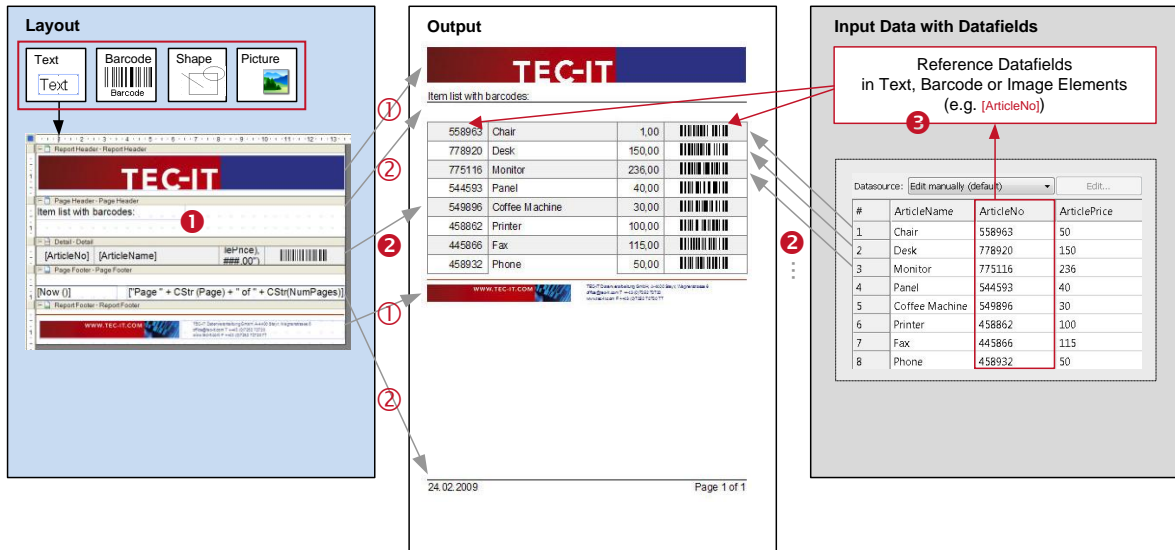

Figure 13: Rendering the Layout
Each print-out is based on the form layout. The form layout uses different design elements like text elements, barcode elements, shapes and pictures which are placed on bands (see Figure 13, ❶).
When generating the output, each of the bands will be rendered repeatedly: Usually a *detail band* is rendered for each single record (see Figure 13, ❷) of the datasource. *Page header* and *page footer*
are rendered at the top respectively bottom of each page automatically (see Figure 13, ②). The *report header* and the *report footer* are printed at the beginning and at the end of the report (see Figure 13, ①). In this way the output is assembled.
For providing the content you have various possibilities: Text, barcode and image elements can be filled with fixed data. Aside from that they can also reference the fields in a datasource. Such references will be resolved during print time and the actual data is inserted (see Figure 13, ③). However, not only the fields in the datasource may be used to provide dynamic data. **TFORMer** also provides system fields (e.g., the current page number) and functions (e.g., the current date), and you can perform your own arbitrary computations. Besides that, you can easily create your own serial numbers and use them in the layout.